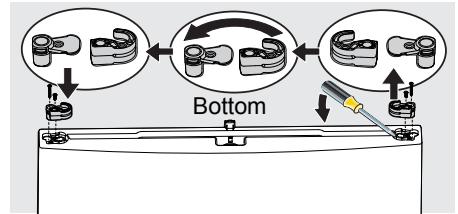

Figure 3
3. Flip the door over to access the bottom. Remove the screw from the hinge bearing and the door closer (see Figure 3).
4. Using a flat head screwdriver, gently pry the closer/bearing assembly out of the door (see Figure 3).
5. Separate the door closer and hinge bearing (see Figure 3).
6. Flip the door closer over 180° and reinstall the closer onto the bearing (see Figure 3).
7. Reinstall the closer/bearing assembly to the opposite side of the door and reinstall the screws (see Figure 3).